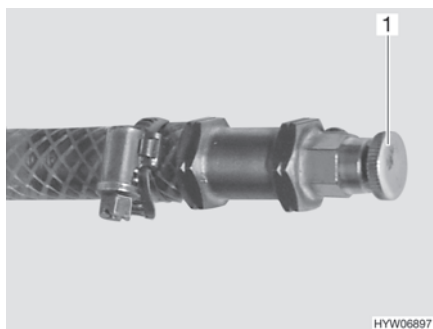

Fig. 185 Bleeding valve of hot-water heater
- Open bleeding valve (Fig. 185,1) and leave open until no more air escapes.